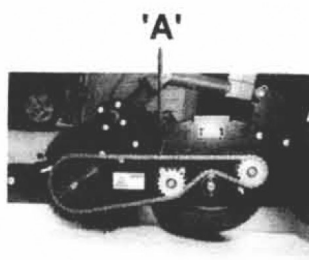

FIGURE 2c
- 7 Remove both Chain guard covers (#10) and check chain tension. Chain should have between 1/2" to 1" deflection at point "A" as shown in (fig. 2c) to get the desired chain deflection. Replace Chain Guard covers (#10)
- 4** Periodically it is recommended to remove the chain guard cover (#10) and check for debris buildup, clean as required. At this time check the chain (#45) deflection and adjust as required per (fig. 2c). It is recommended not to grease the chain but instead apply a light coat of a dry silicone spray lubricant - this will minimise dirt buildup on the chain drive components.